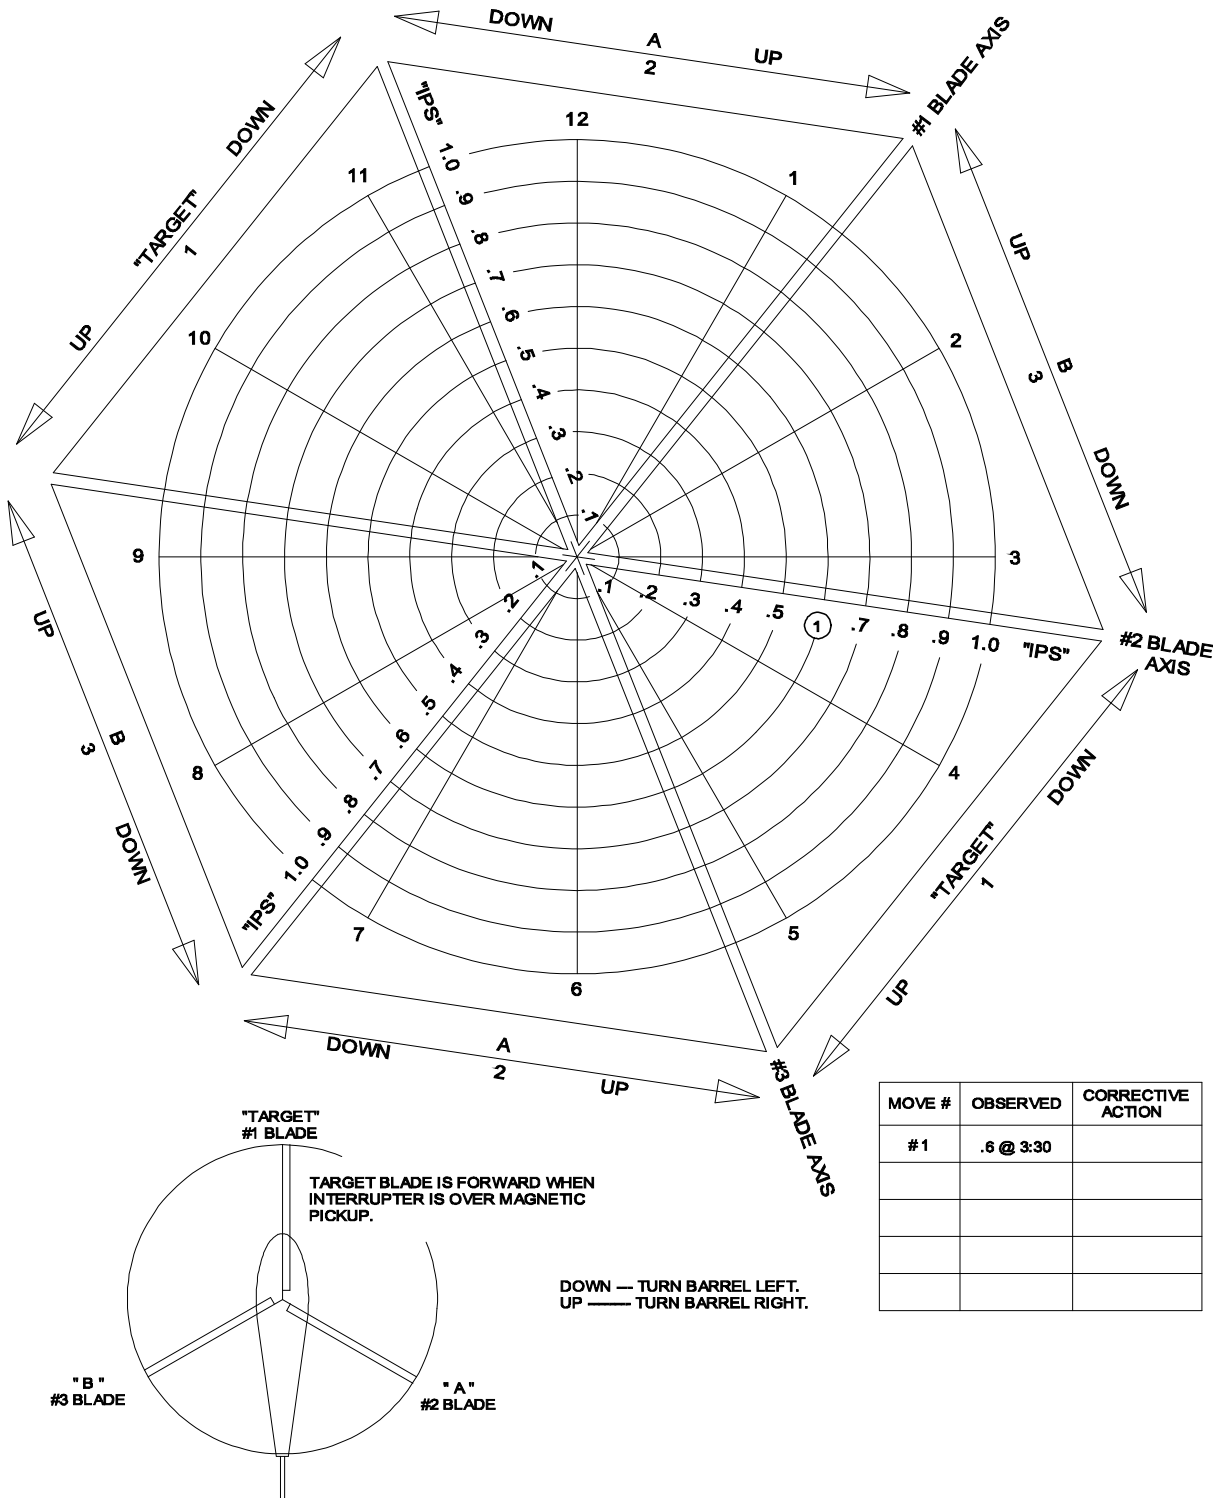

Figure 12-6. Main Rotor Clock Angle Correction Example
1. A reading of .6 ips at a clock angle of 3:30 for the first hover run is plotted on the polar chart (Figure 12-6).